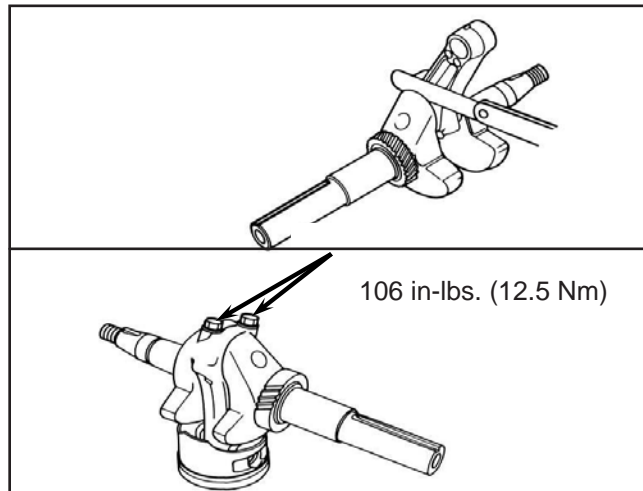

Figure 22
4. Crankshaft end side/thrust clearance, measure and compare to specifications (Figure 22).
**NOTE: Do not rotate the crankshaft while tightening the connecting rod bolt (Figure 22).**